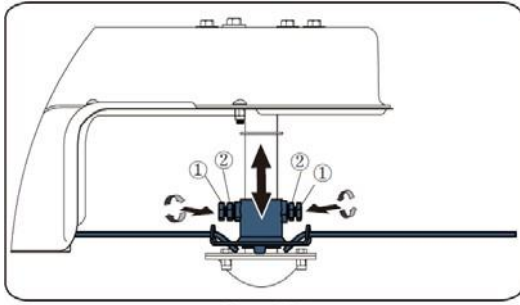

Figure 5-1
2. Slide the spindle upward or downward to the desired position before retightening the bolts ① and nut ②. See Figure 5-1.